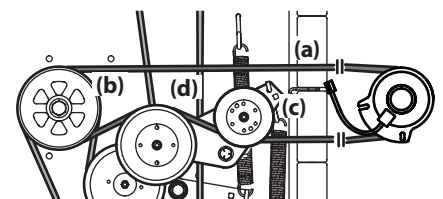

Figure 54
- Remove the PTO belt (a) from the deck as instructed in the Deck Removal section then remove it from around the PTO clutch. See Figure 54.
2. Route the PTO belt (a) as shown in Figure 54 on page 29.
3. After routing the belt around the PTO pulley (b), use a 1/2" drive in the idler pulley bracket (c) and turn towards the right of the mower to finish routing the belt around the idler pulley (d). See Figure 54 on page 29.